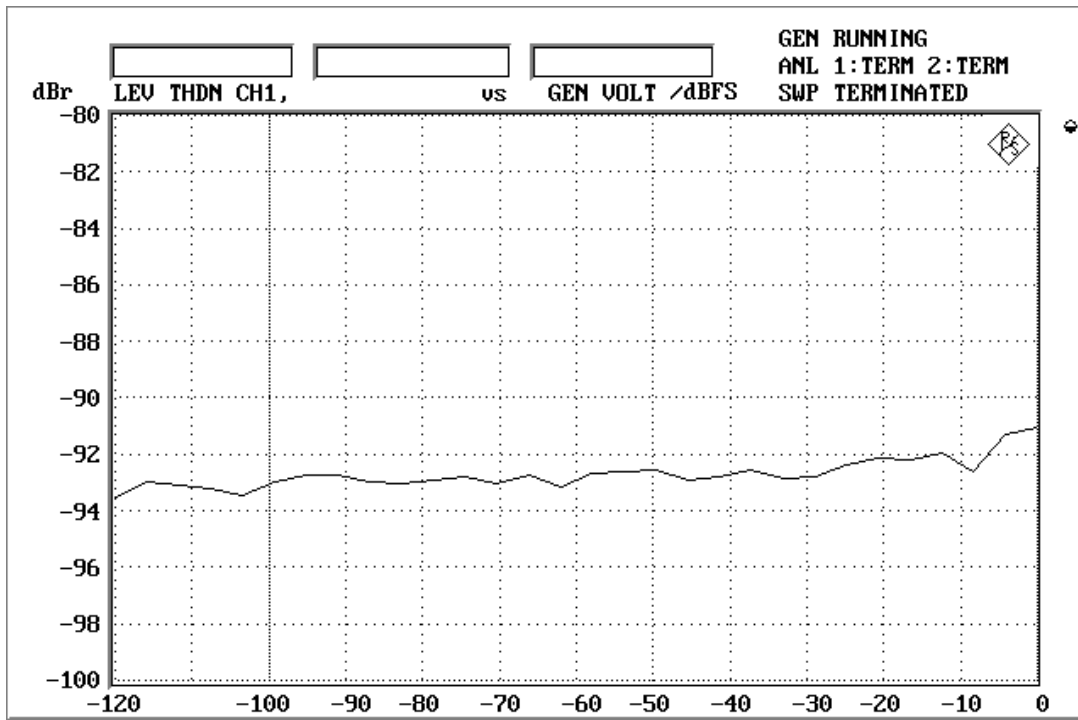

Figure 19. THD+N vs Input Level (fs=192kHz; fin=1kHz)
- Figure 19. THD+N vs Input Level (fin=1kHz)